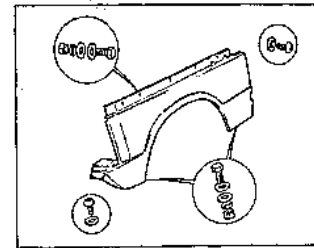

Fig. 12.2 The front wing panel and fixings (Sec 8)
- 6 The wing panel on the side concerned can now be removed after its retaining bolts and screws are removed. Their positions are shown in Fig. 12.2.